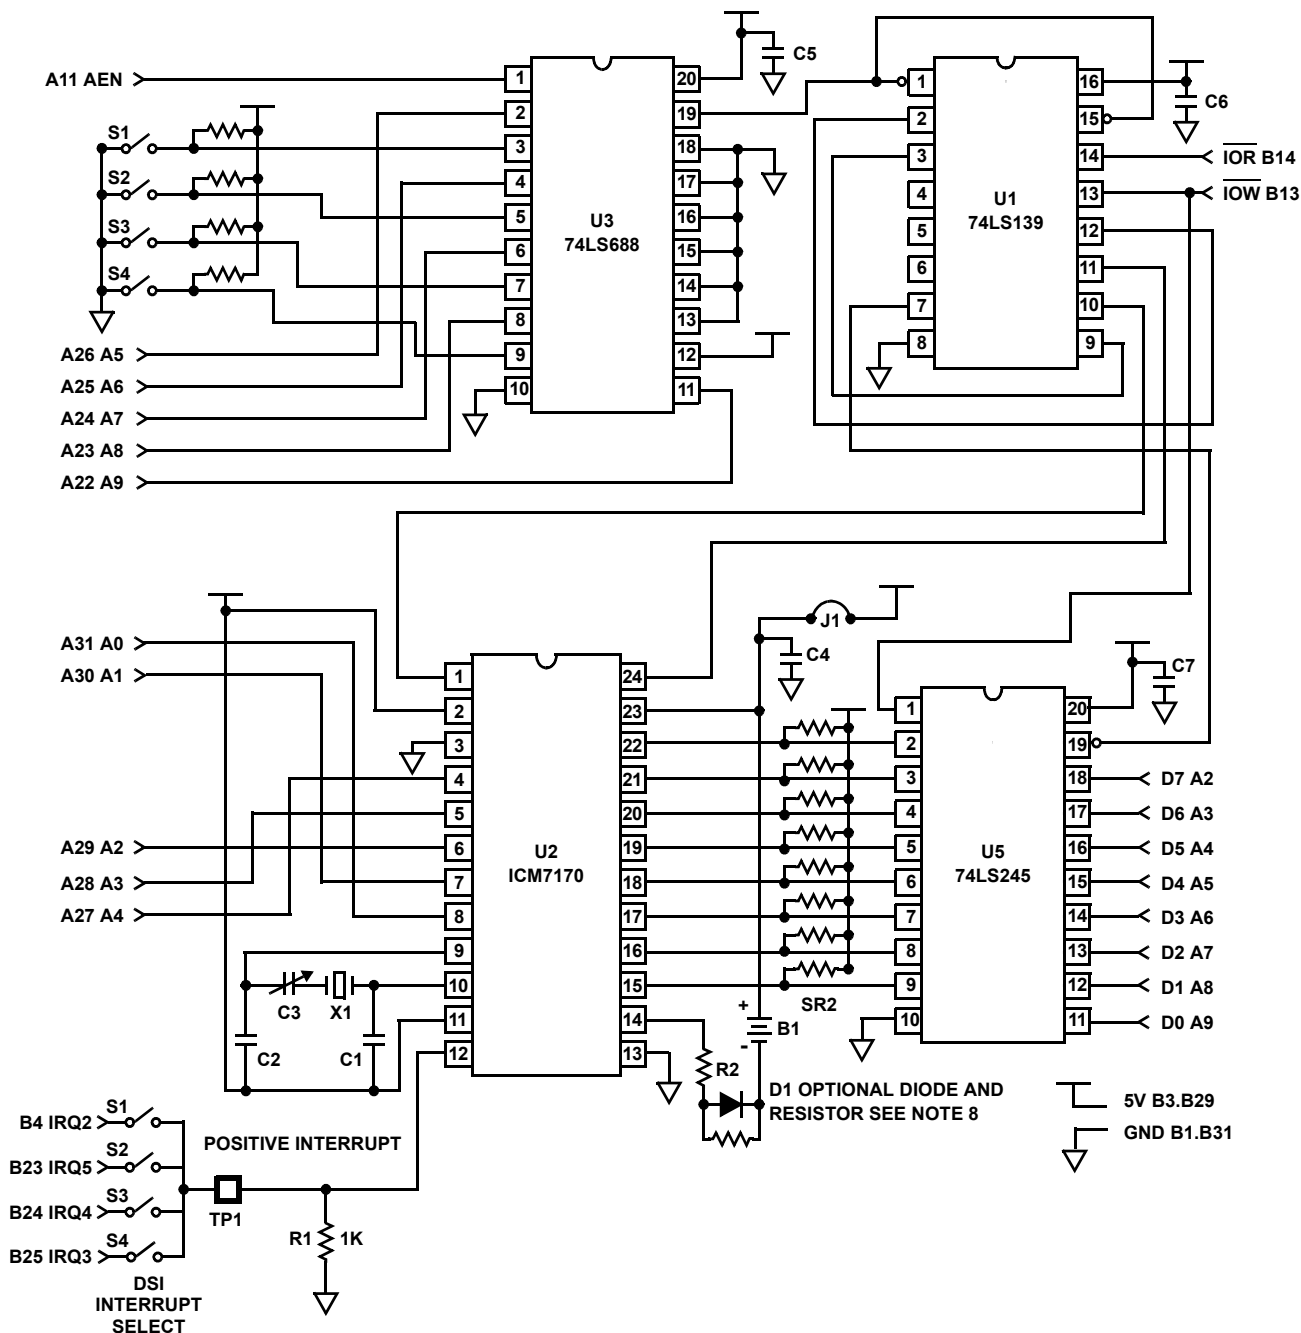

FIGURE 9. IBM PC INTERFACE FOR ICM7170Y
Figure 9 shows the schematic of a board that has been designed to plug into an IBM PC/XT (Note 1) or compatible computer. In this example \overline{CS} is permanently tied low and access to the chip is controlled by the \overline{RD} and \overline{WR} pins. These signals are generated by U1, which gates the IBM's \overline{IOR} and \overline{IOW} with a device select signal from U3, which is functioning as an I/O block address decoder. DS1 selects the interrupt priority.
8. **V_{BACKUP} DIODE** - Lithium batteries may explode if charged or if discharged at too high a rate. These conditions could occur if the battery was installed backwards or in the case of a gross component failure. A 1N914-type diode placed in series with the battery as shown in Figure 9 will prevent this from occurring. A resistor of 2M Ω or so should parallel the diode to keep the V_{BACKUP} terminal from drifting toward the V_{SS} terminal and shutting off ICM7170 I/O during normal operation.